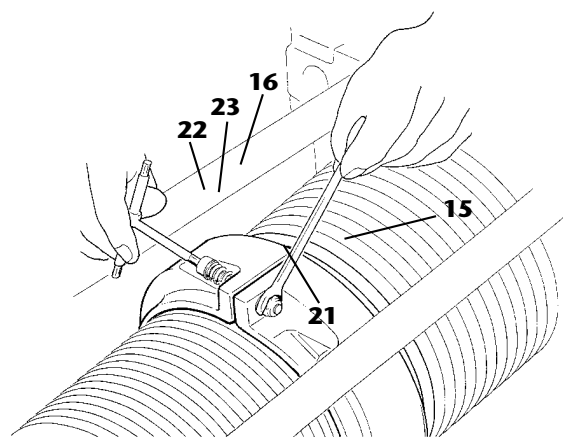

fig. 200
7. Bring together the two semi-rings -15- and -16- to the drum , inserting the screws -22- and the springs -23- and tightening the self-blocking nuts -21- until the springs are pre-charged -23-, taking care not to tighten them in a pack and to keep the whole ring-rope guide system elastic (fig. 200).
8. Bring the semi-ring to the opposite side to where the wire rope comes out -15- on the drum and match it up with the semi-ring on the side where the wire rope comes out -16-, insert the screws -22- and the springs -23- and tighten the self-blocking nuts -21- until the springs are pre-charged -23-, taking care not to tighten them in a pack and to keep the whole ring-rope guide system elastic (fig. 200).